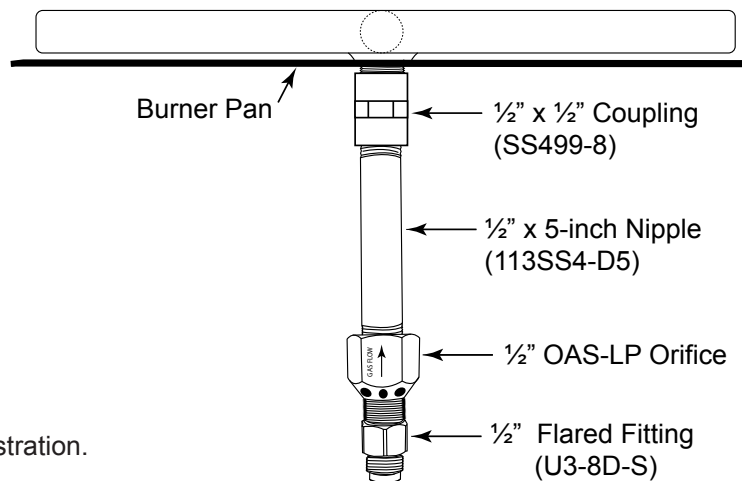

Fig. 1 LP conversion illustration.
When converting Natural gas burners to Propane (LP) gas, the main burner orifice must be kept a minimum of 6-inches away from the burner connection (nipple) to prevent any back pressure at the LP orifice. See Fig.1 below for details.